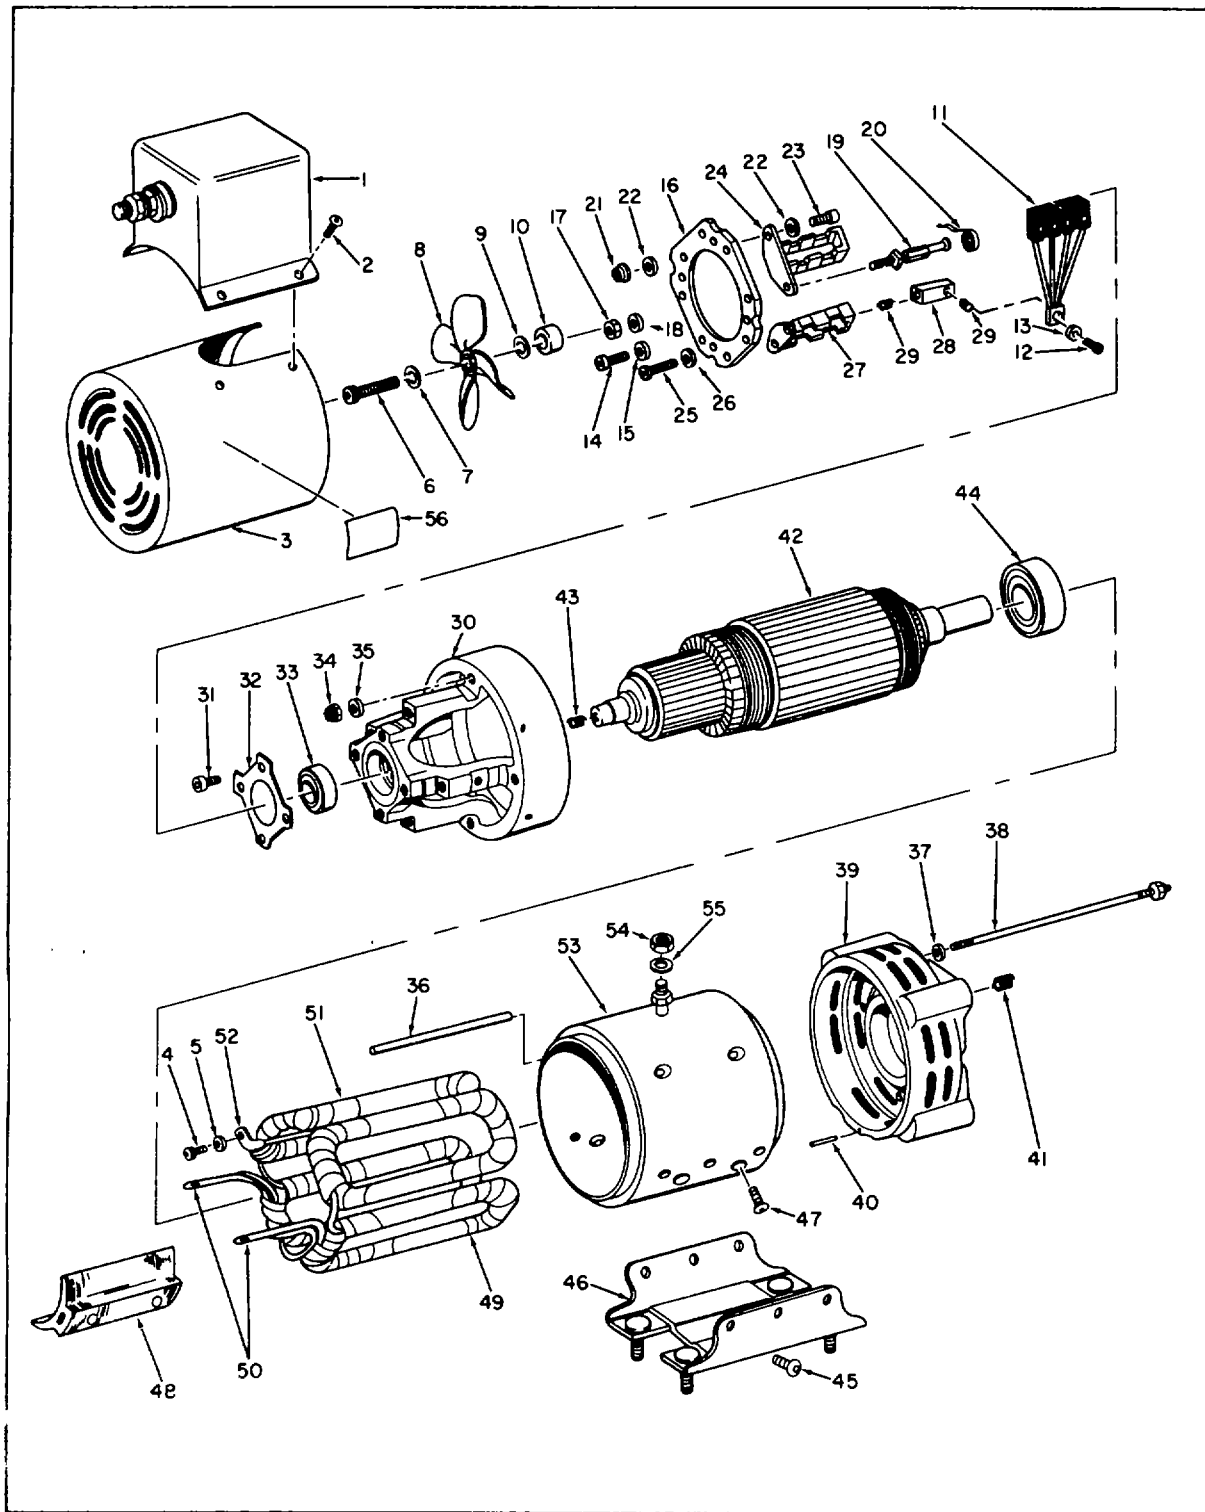

Figure A-4. Electric Motor Assembly - Exploded View
1. Locate short scribe mark (approximately 1/4 inch long) on edge of stator housing outside diameter. Position winding assembly in stator housing so that winding with terminal (52) is on the same axis as stud in stator housing (53). The other three windings travel counterclockwise in housing with a winding on each side of the reference scribe line, Figure A-4. Field terminal wires must be at scribe-line end of housing. Assemble pole shoes to windings and mount on a tight fitting arbor to insure keeping bore smooth while tightening pole shoe screws. Draw pole shoe screws tight. Torque 75-85 inch pounds. A 2.992 inch diameter gauge must pass through I.D. of shoes.
2. Use solder of 2.5 percent silver and 97.5 percent lead to attach terminals (50) and (52).